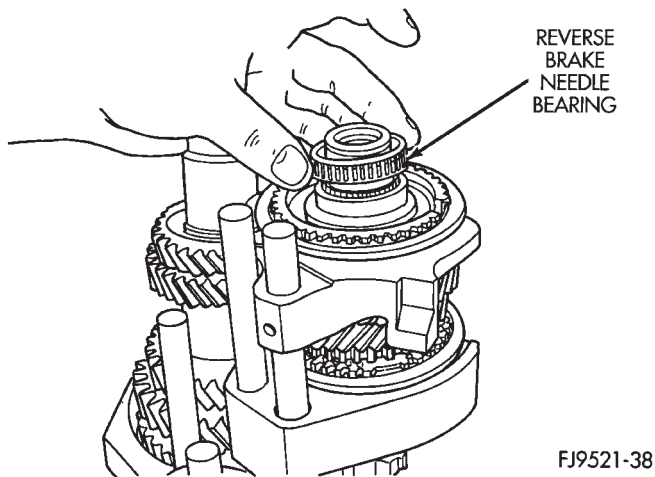

Fig. 70 Reverse Brake Needle Bearing
(5) Install reverse brake needle bearing (Fig. 70).